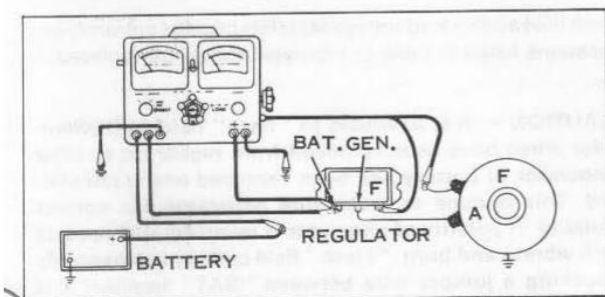

Figure 5-33.
F. TESTING CURRENT CONTROL UNIT SETTING (Figure 5-33)